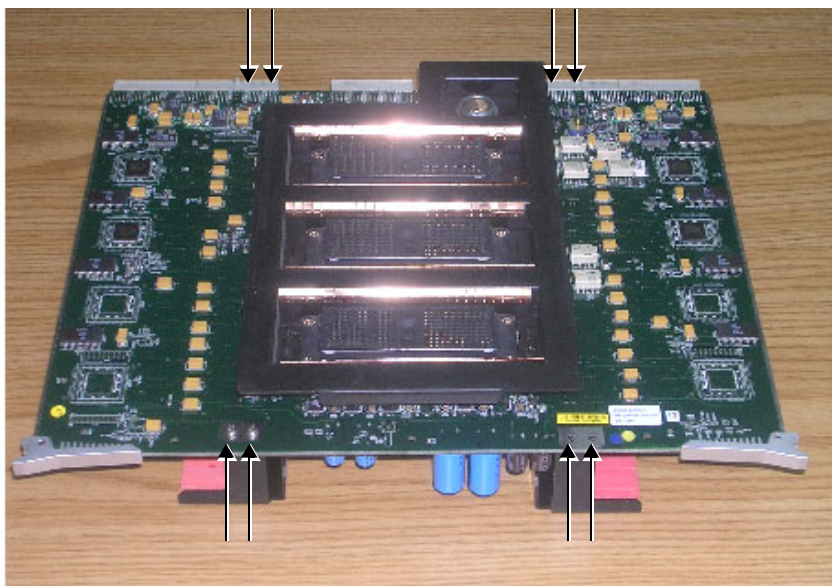

Figure 8-43 Location of Screws on Securing Brackets
3.) Remove each of the four screws (two from each side) that hold the two brackets that secure the TR4 boards to the FE Board main plate, as shown in Figure 8-43 below.
- 3.) Return and tighten the four screws (two on each side) to fasten the bracket in position and secure the TR4 boards to the Front board main plate - refer to Figure 8-43 on page 8-46.